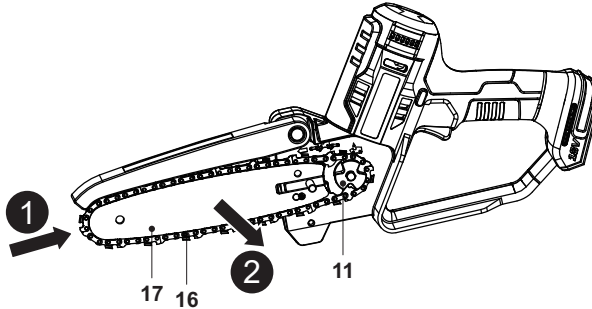

Fig. 2
3. Push the saw chain (16) and guide bar (17) assembly towards the drive sprocket (11) and keep it pressed, then remove them from the drive sprocket (11) (Fig. 2, steps 1, 2).